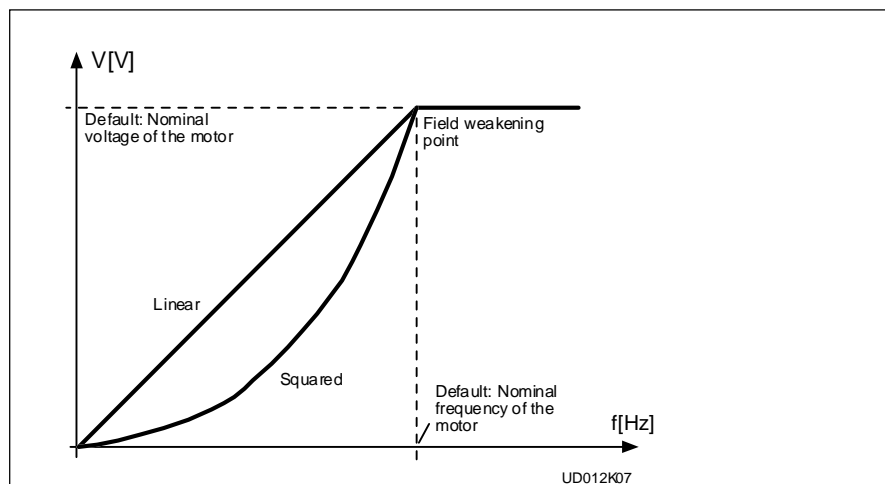

Figure 5-2 Linear and squared V/Hz curves.
Linear: The voltage of the motor changes linearly with the frequency in the constant flux area from 0 Hz to the field weakening point (par. 6. 3) where the nominal voltage is also supplied to the motor. See figure 5-2. Linear V/Hz ratio should be used in constant torque applications.
- Squared:** The voltage of the motor changes following a squared curve form with the frequency in the area from 0 Hz to the field weakening point (par. 6. 3) where the nominal voltage is also supplied to the motor. See figure 5-2.